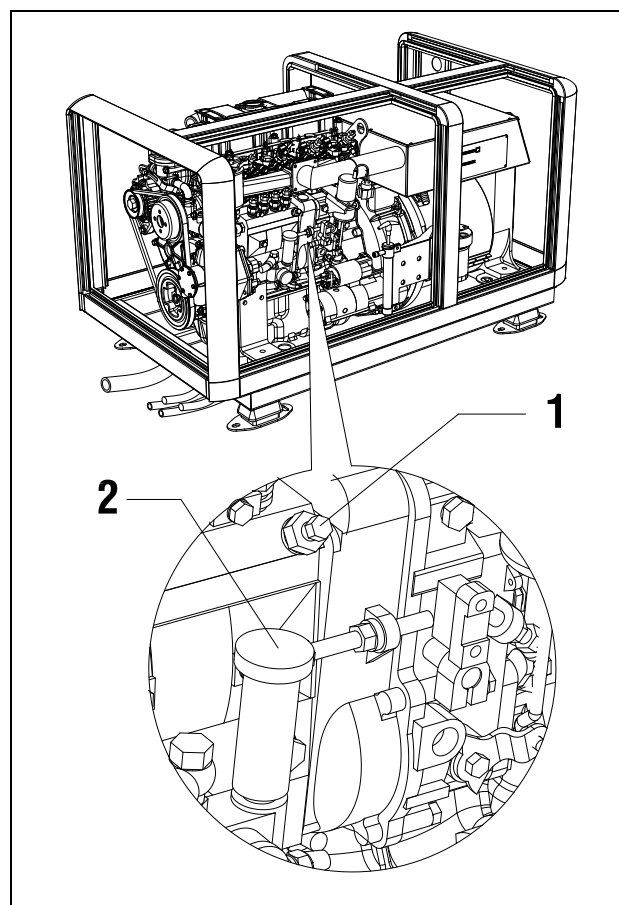

Fig. 13: Bleeding fuel lines
- 3 Unlock lift pump plunger (2) (See fig 13) by turning it to the left.
- 5 Lock lift pump plunger (2) (See fig 13) by pushing it full down and turning it to the right.
- 6 Tighten the air bleeding screw (1)